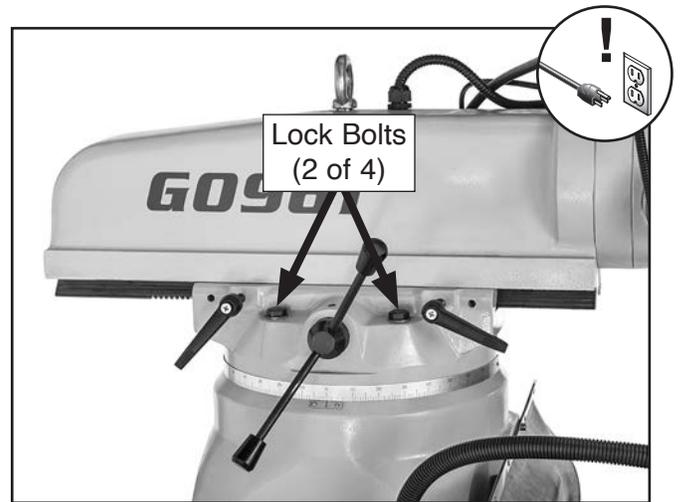

Figure 27. Location of lock bolts on turret.
2. Loosen (4) lock bolts (two on each side of ram) that secure ram to turret (see **Figure 27**).